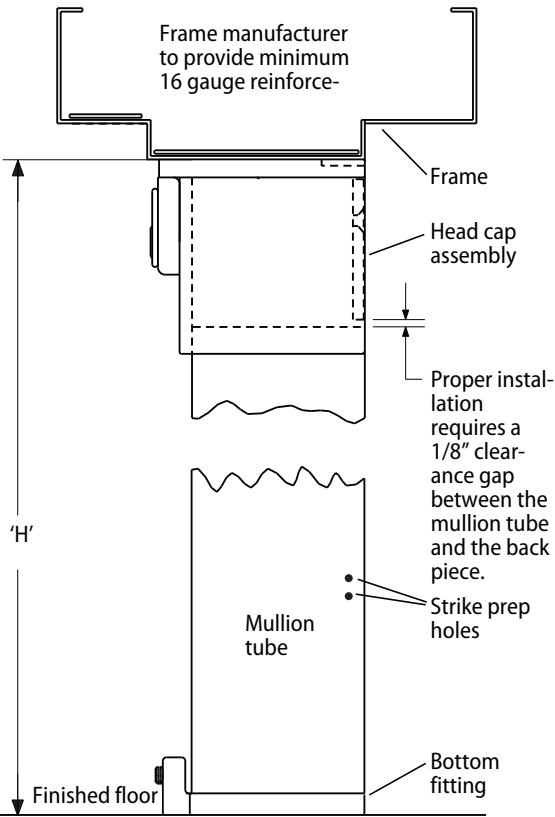

Figure 8 Determining the length of the mullion tube, KR unit shown
- 1 Measure the distance 'H' as shown in Figure 8.